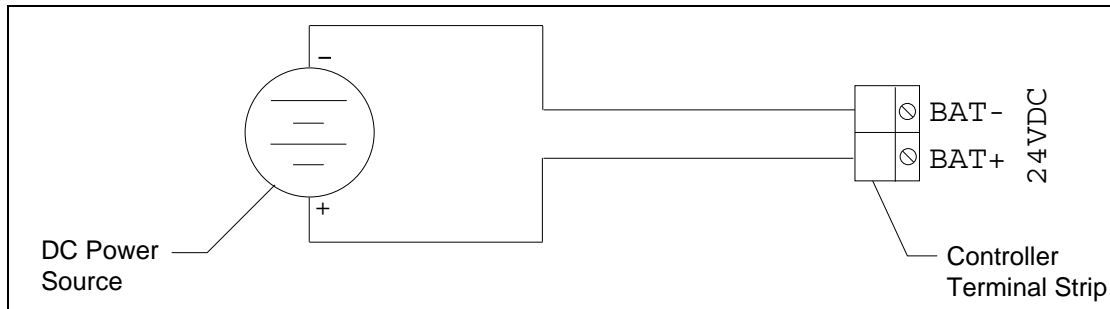

Figure 9: DC Power Wiring
6. Connect the wires from the transmitter to the appropriate transmitter terminal strip. See the transmitter instruction manual for controller terminal connections. Figure 9 below illustrates typical transmitter wiring connections.